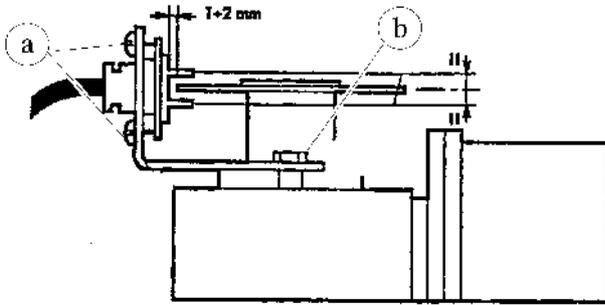

Figure 8.8-1
3. Adjust the centering of the encoder photocell by turning the 2 screws **a** and **b** so that the photocell is positioned as shown in Figure 8.8-1.